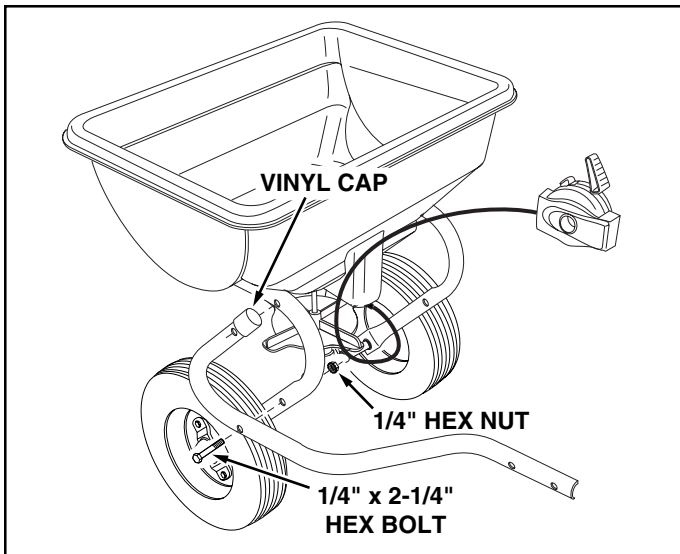

FIGURE 1
1. Assemble vinyl caps onto the ends of the R.H. and L.H. Hitch Tubes. See figure 1.
2. Assemble the R.H. Hitch Tube to the spreader frame tube using two 1/4" x 2-1/4" hex bolts and 1/4" hex nuts. **Do not tighten yet.** Repeat for L.H. Hitch Tube. See figure 1.